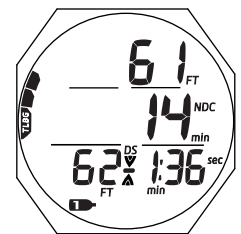

Fig. 72 - DS MAIN
**DEEP STOP MAIN**, information includes (Fig. 72):